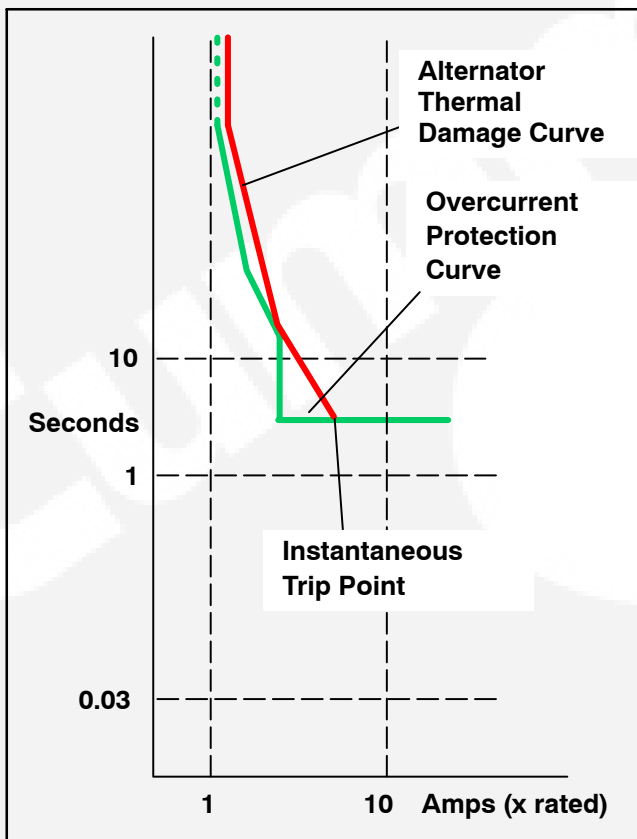

FIGURE 2-4. ALTERNATOR PROTECTION THERMAL DAMAGE CURVE
- **Overcurrent Warning/Shutdown** – Implementation of the thermal damage curve with an instantaneous trip level is calculated based on the Current Transformer Ratio and the Application Power Rating (see Figure 2-4).